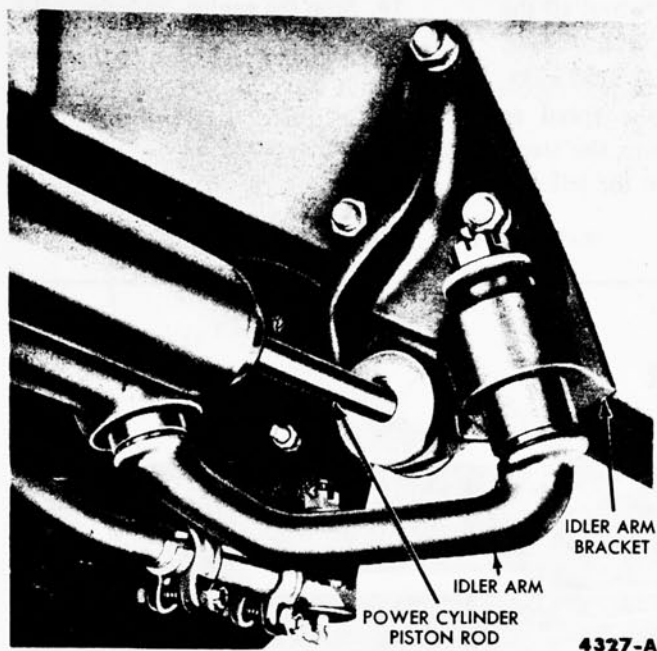

FIG. 19—Power Cylinder Piston Rod, Idler Arm, and Bracket
2. Remove the locknut, nut, washer, and insulator (Fig. 19) from